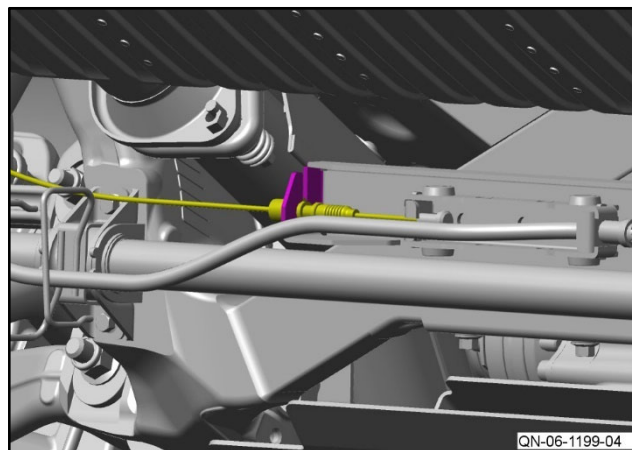

Figure 7
8. Release the park brake cable from the park brake bracket (refer to Figure 7).